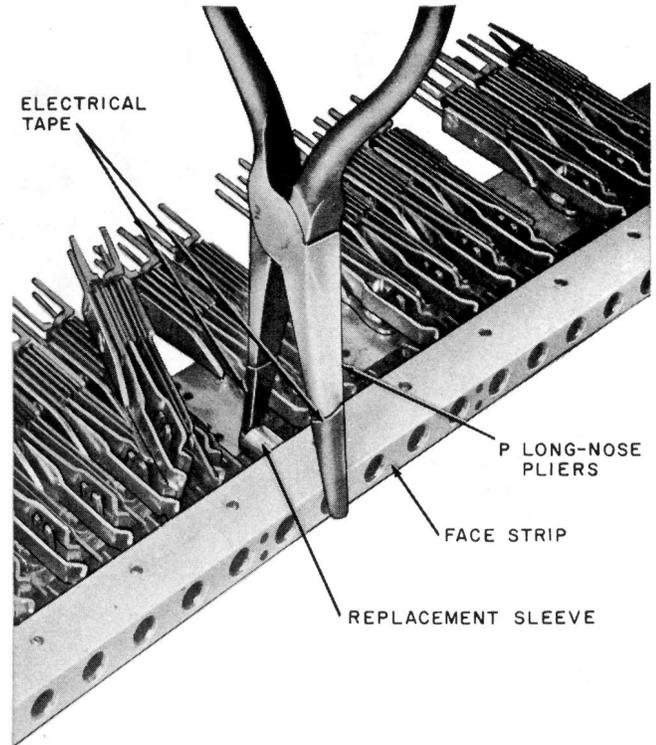

Fig. 15— Method of Forcing Sleeve Terminal Forward into Jack Strip on 510-, 511-, and 512-Type Jacks
3.26 Carefully move the jack from its mounted position sufficiently to permit insertion of the replacement sleeve, **taking care to avoid electrical damage to terminal connections and adjacent apparatus.** Insert the replacement sleeve from the rear of the face strip, align the sleeve contact with the sleeve terminal contact, and push the sleeve in place with the fingers. If the sleeve cannot be fully inserted, wrap approximately three turns of plastic electrical tape around each jaw of the P long-nose pliers, span the face strip and sleeve with the pliers, and press the sleeve into position. See Fig. 15.